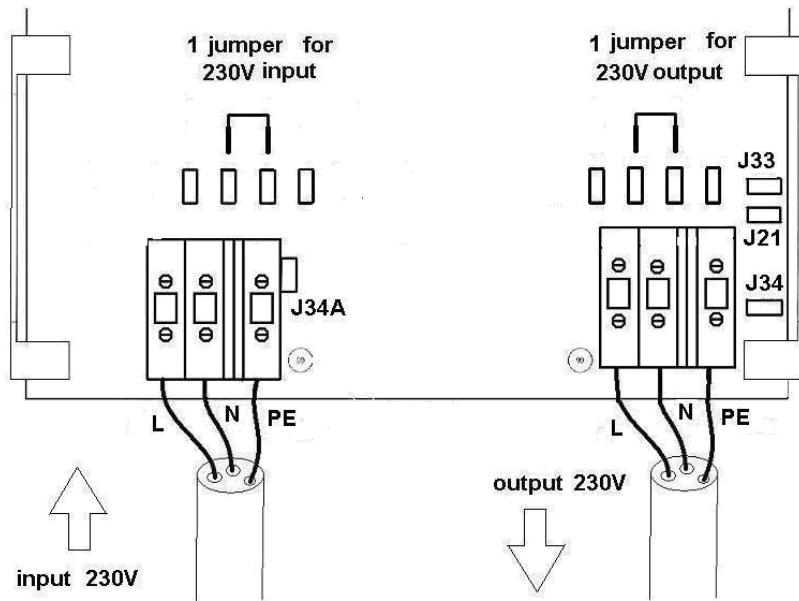

Figure 2: Jumper settings for 230/240V input and/or output
**2.2.2 Other models: for 230/240V input and/or output, connect the push-on jumpers as shown in fig 2.**